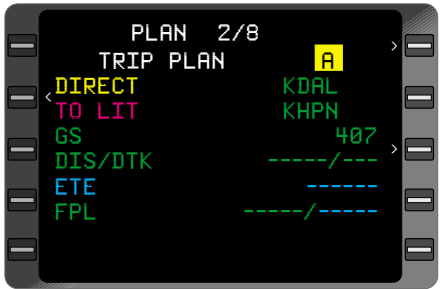

Figure 3-158
3. Desired Flight Plan - INSERT Flight Plan Number (Figure 3-157) or “**A**” for Active Flight Plan. (Figure 3-158).